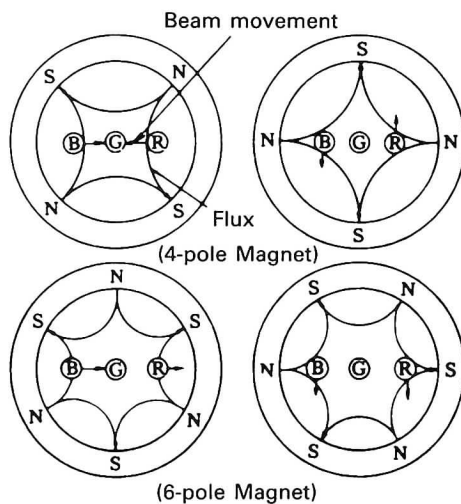

Fig. 9
2. Adjustment of 6-pole magnets affects red and blue beams. (Fig. 9)